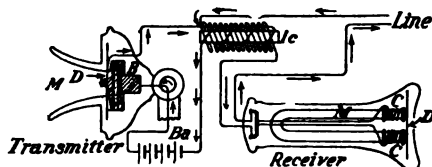

FIG. 312.—Telephone instruments at one end of a talking circuit.
**312. The Electric Telephone.**—This is an instrument for reproducing the human voice at a distance by an electric current. The modern electric telephone consists of at least four distinct parts (see Fig. 312); viz., a *transmitter*, an induction coil, an electric battery, and a *receiver*. The first three of these are concerned in sending, or *transmitting* over the connecting wires a fluctuating electric current, which has been modified by the waves of a human voice. The receiver, is affected by the fluctuating current and reproduces the voice. It will be considered first, in our study.
disc is a circular compartment containing granular carbon, *g*. The wires of the circuit are connected to the carbon disc and to the back of the case containing granular carbon. The circuit through the transmitter also includes a voltaic or storage cell and the primary coil of an induction coil. (See Fig. 312.)
**316. A complete telephone system** operating with a local battery is shown in Fig. 312. A person speaking into the transmitter causes a fluctuation in the electric current in the transmitter as described in Art. 315. This fluctuating current passes through the primary coil of the induction coil *Ic*. This fluctuating current produces a fluctuating magnetic field in its core. This fluctuating field induces an *alternating* current in the secondary coil which alternates just as the primary current fluctuates,